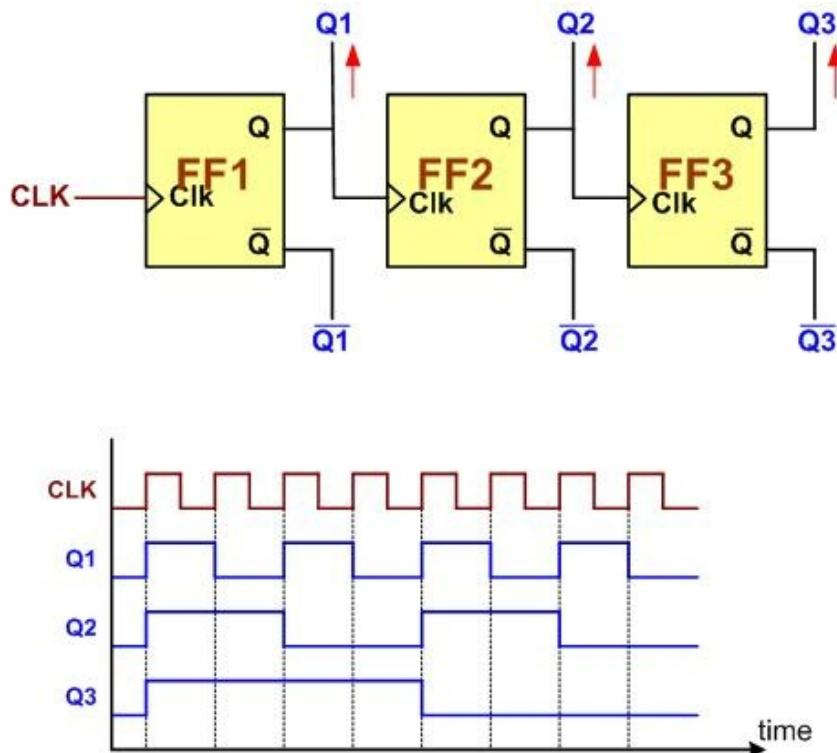

Figure 5-1: A 3-bit Counter
In the digital design course you connected many flip flops (FFs) together to create up counter/down counter. For example, connecting 3 FFs together we can count up to 7 (000-111 in binary). This is called *3-bit counter*. The same way, to create a 4-bit counter (counting up to 15, or 0000-1111 in binary) we need 4 FFs. For 16-bit counter, we need 16 FFs and it counts up to  $2^{16} - 1$ . Figure 5-1 shows the T flip flop connection and pulse outputs for all three flip flops.
Regarding Figure 5-1, notice the following points:
- 4) We can use the circuit in Figure 5-1 to divide clock frequency.
- 5) We can use the circuit in Figure 5-1 to count the number of pulses fed to CLK pin of FF1.